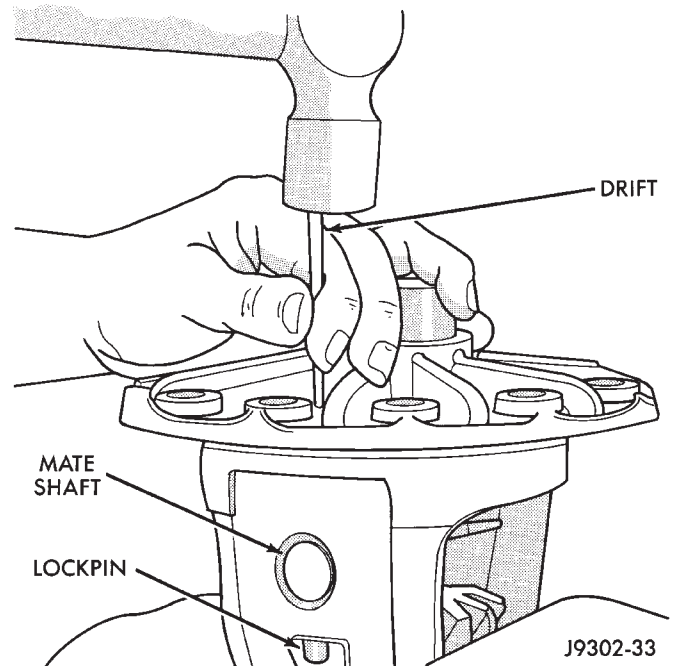

Fig. 50 Mate Shaft Roll Pin Removal
- (2) Using a suitable roll pin punch, drive out the roll pin holding pinion gear mate shaft in the differential case (Fig. 50).